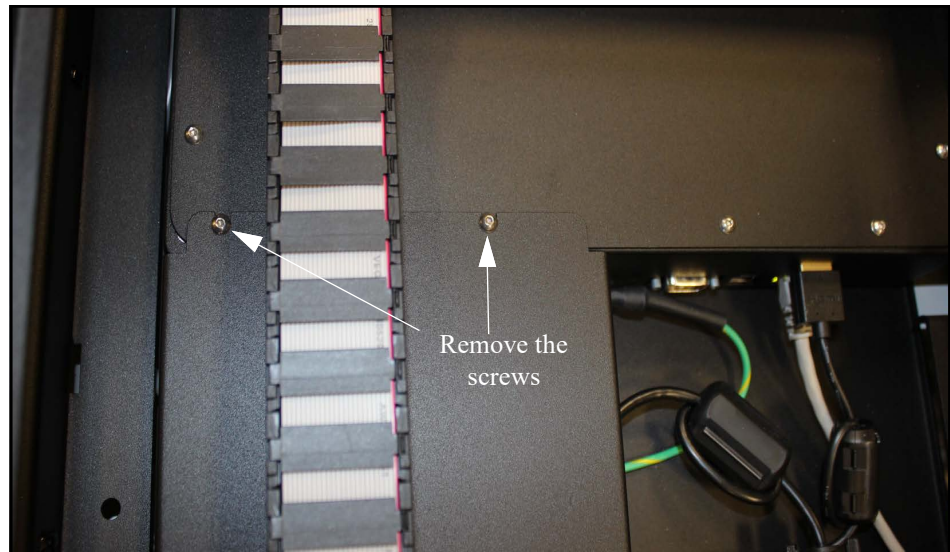

Figure 66
7. Remove the two screws using a 5/64" Allen wrench (see Figure 66).